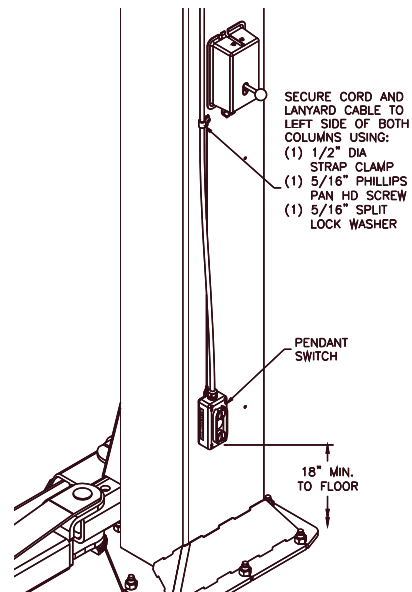

Fig. 13 – Pendant Switch Installation
- 31) Locate the pendant mounting hole on each column just below the lock cover on the left side. Tap hole on both columns 5/16-18NC. Hang both pendant switches using supplied 1/2" line clamp, 5/16-18 x 3/8 lg. pan head screw and 5/16" split lock washer (**Fig. 13**). Position line clamp around pendant wire. Insert screw thru lock washer, free end of cable lanyard, and line clamp and secure to column.